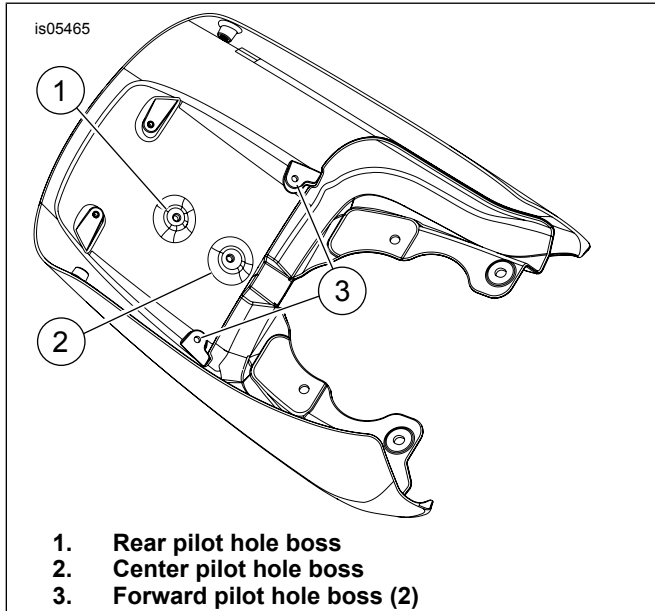

Figure 2. Inside of Fender
1. See Figure 2. Apply masking tape to the outside painted surface of the fender at hole locations (2 and 3). This will protect the painted surface during the drilling operation.
See Figure 2. If luggage rack has been previously installed, only hole (2) needs to be drilled.
- See Figure 2. Apply masking tape to the outside painted surface of the fender at hole locations (1, 2 and 3). This will protect the painted surface during the drilling operation.